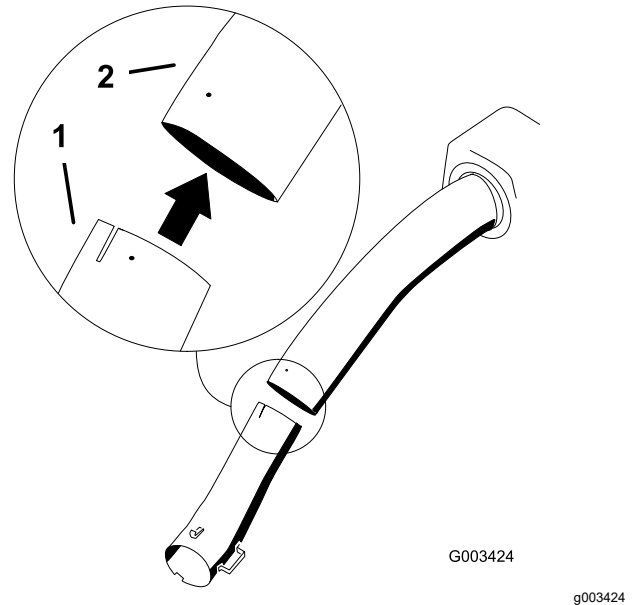

Figure 34
5. Install the lower tube into the upper tube (Figure 34).